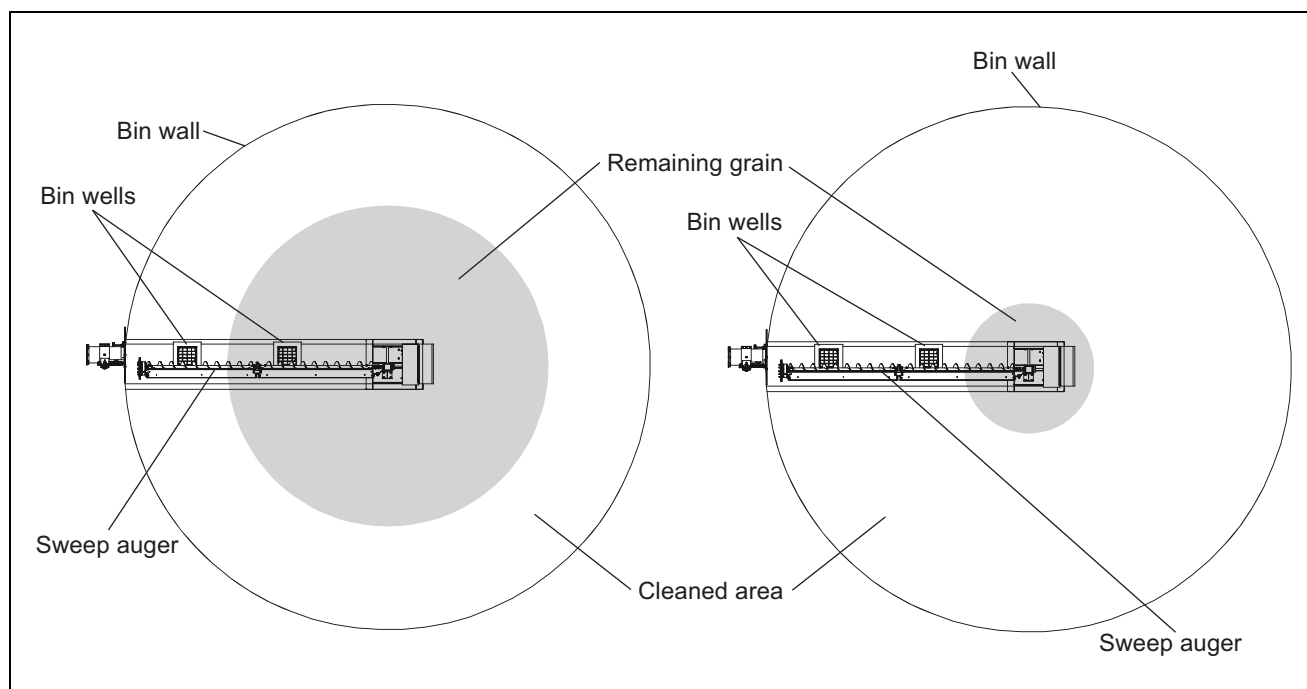

Figure 5I Top View of Bin
1. Clean (scoop and sweep by hand) the outer area of the floor into a circular pile towards the center of the bin. *(See Figure 5I.)*